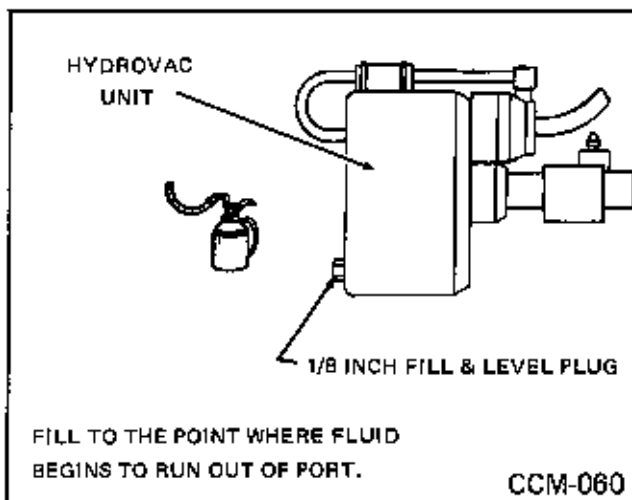

Fig. 55 Hydrovac Lubrication
With engine "off" and brakes released, wipe hydrovac free of dirt and remove plug from rear and lower center of hydrovac unit. (Fig. 55) Inject Vacuum Cylinder Lubricant into port until fluid begins to run out of the port. (Capacity approximately two (2) ounces). Replace plug after filling.